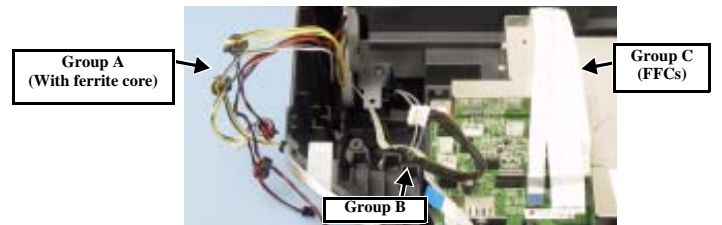

Figure 4-15. Separating the cables and FFCs
3. Separate the cables and FFCs into three groups, A, B and C. (Fig. 4-15)